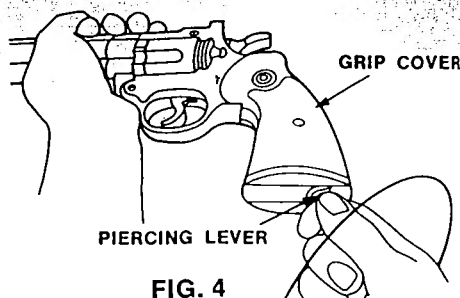

FIG. 4
- C. With one hand hold the Revolver by the Barrel. With the other hand turn Piercing Lever counter-clockwise until it stops turning. Fig. 4.